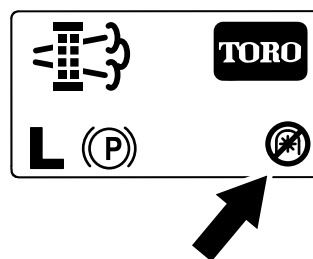

Figure 47
**Note:** The Home screen displays the PTO disabled Icon (Figure 47).
**Note:** The Home screen displays the PTO disabled icon; refer to Figure 47 in Parked Regeneration Messages \(page 38\).